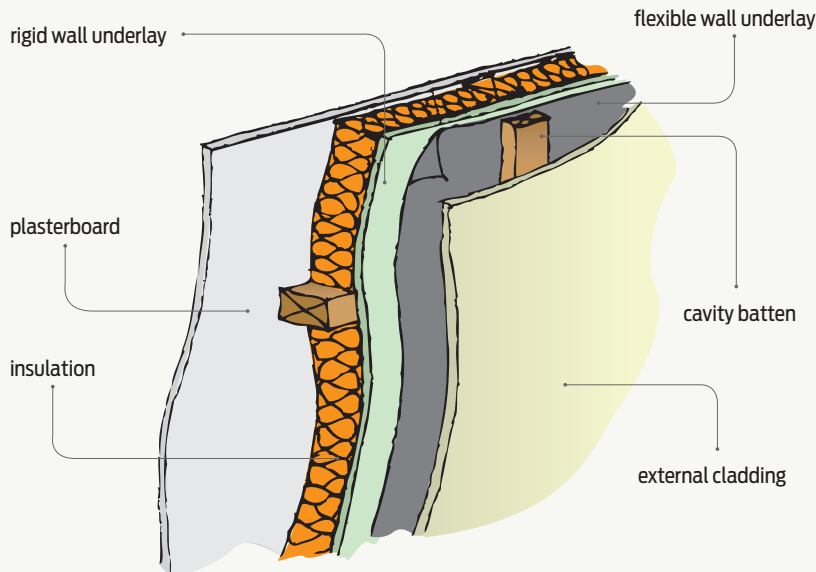

Figure 1 Rigid wall underlay installation.
E2/AS1 Amendment 5 requires a rigid wall underlay to be installed under all claddings in extra high (EH) wind zones (as determined by NZS 3604:2011 Section 5). A rigid wall underlay is usually installed with a drained cavity (see Figure 1) since all claddings in extra high wind zones require a drained cavity except direct-fixed vertical corrugated steel cladding.